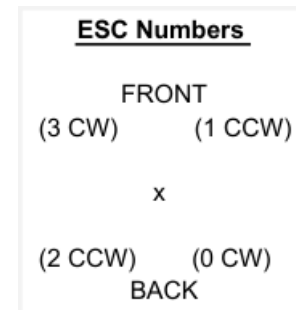

Figure 4. Motor numbers and spinning directions.
9. After you hear 3 or 5 beeps (which indicates that the ESCs are enabled and that the model is running on the drone), set the **Arm/Disarm switch** to 1. The four motors should start spinning at the same time. Use this to make sure all motors are spinning in the correct direction. **Switch the Cycle Motors switch** to 1, the motors will move sequentially (one at a time in clockwise order) which you should see in the **Motors (%) Scope**. Ensure that the motors are turning on and off in a clockwise cyclical order and each motor is spinning in expected directions: bottom right (motor 0, clockwise), bottom left (motor 2, counter-clockwise), top left (motor 3, clockwise) and then top right (motor 1, counter-clockwise). Shown in figure 4 where the front of the drone is where the real sense camera is mounted.